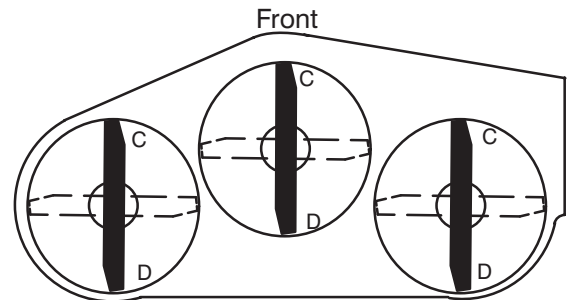
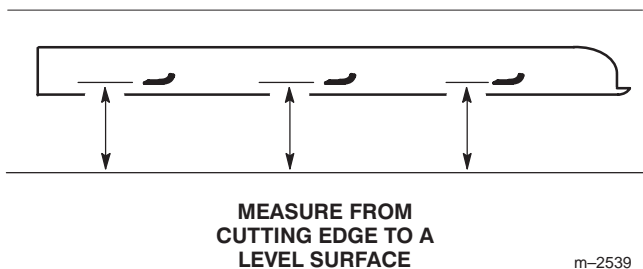

Figure 49
Figure 50
2. Position one blade front-to-rear (Fig. 49). Measure at "C" and "D" locations (Fig. 49) from a level surface to the cutting edge of the blade tips (Fig. 50).
4. Position the blades front-to-rear (Fig. 49). Measure at "C" and "D" locations (Fig. 49) from a level surface to the cutting edge of the blades (Fig. 50).